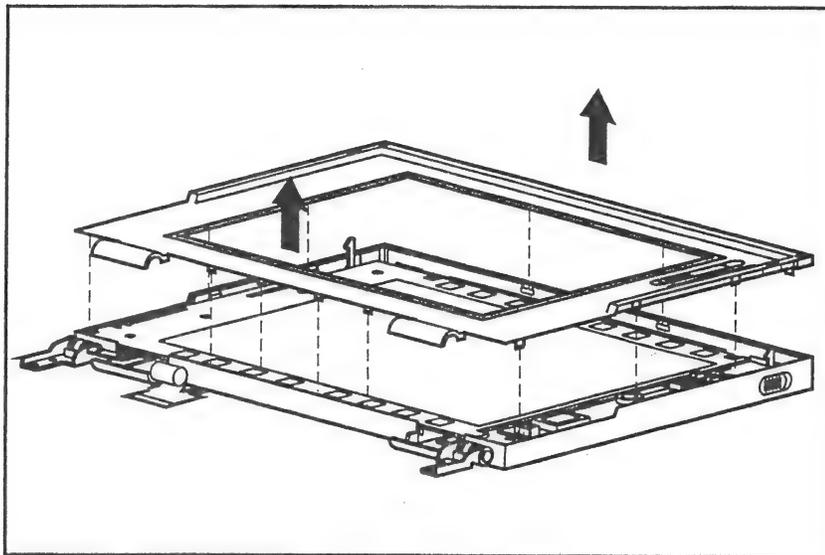

Figure 2-33. Removing the Display Bezel
4. Remove the display bezel from the display panel by gently pulling the bezel frame and working from the bottom up (Figure 2-33).